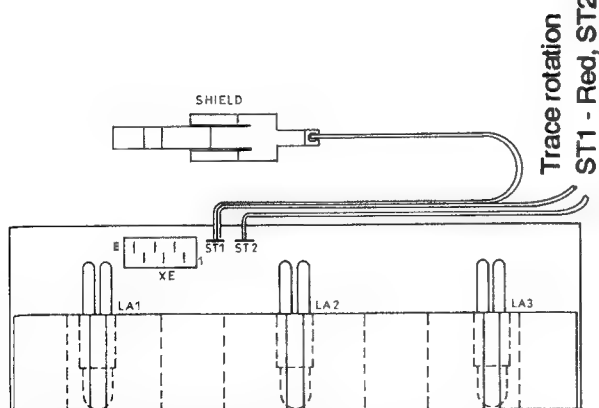

Fig. 3-9 Wiring Illumination panel
- Unsolder the wire yellow and the red wire coming from the trace rotation coil on the Illumination panel (ST 1 and ST 2) (see Fig. 3-9).